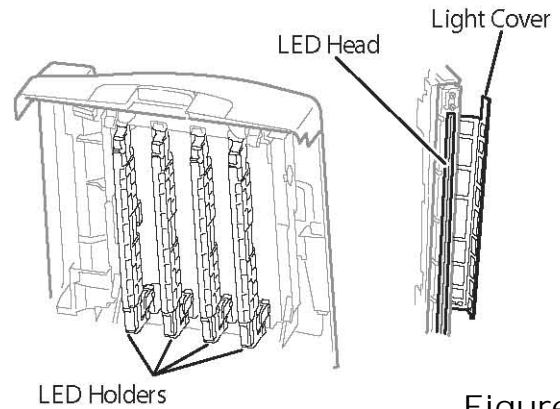

Figure 3
**Figure 3** shows the LED heads in the top cover of the printer and their covers.